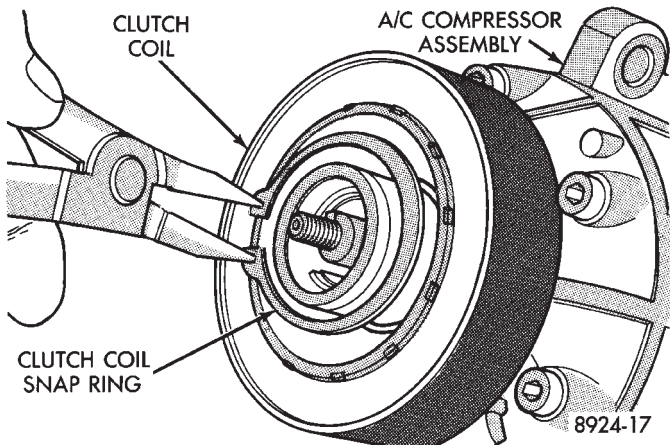

Fig. 9 Remove or Install Clutch Coil Snap Ring
- (5) Remove clutch coil retaining snap ring (Fig. 9) and pull the coil from the assembly (Fig. 10). When installing the clutch coil, align the pin on the front of the compressor to the middle hole in the hub of the coil. Position the pin in the snap ring gap.